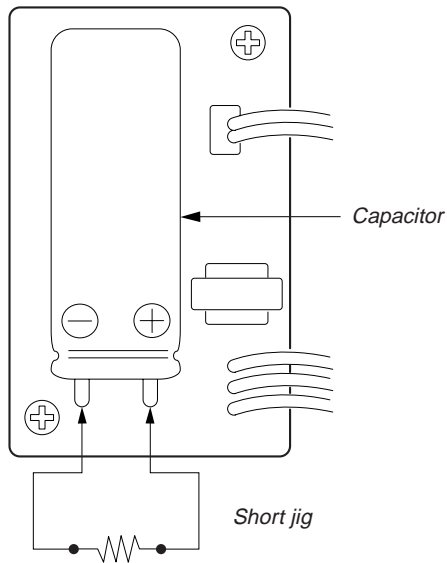

Fig. 5-1-4.
2. Fabricate the discharging jig as shown in Fig. 5-1-4 locally by yourself. Connect the discharging jig to the positive (+) and negative (-) terminal of the flash voltage charge capacitor. Allow ten seconds to discharge the voltage.